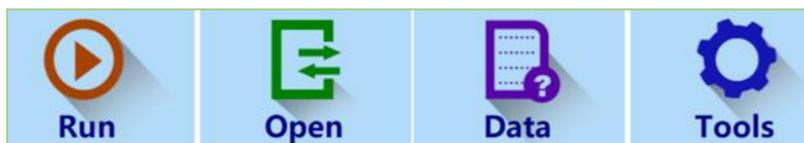

Figure 4-7 Data in Menu Bar
- User could click **Data** in menu bar, as shown in figure 4-7.